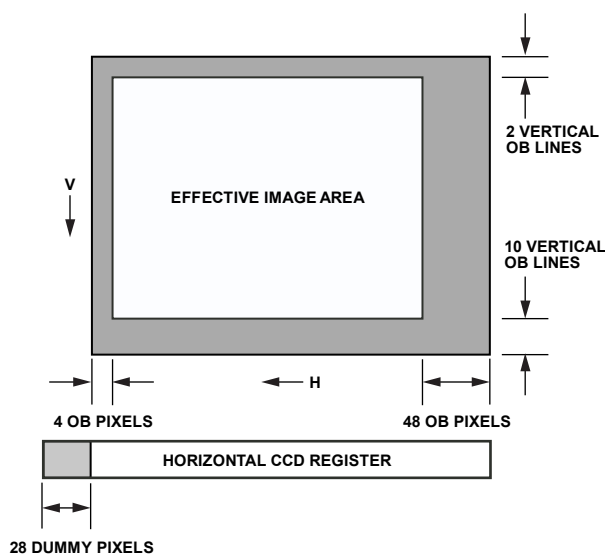

Figure 31. Example CCD Configuration
Figure 31 shows an example CCD layout. The horizontal register contains 28 dummy pixels, which occur on each line clocked from the CCD. In the vertical direction, there are 10 optical black (OB) lines at the front of the readout and two at the back of the readout. The horizontal direction has four OB pixels in the front and 48 in the back.